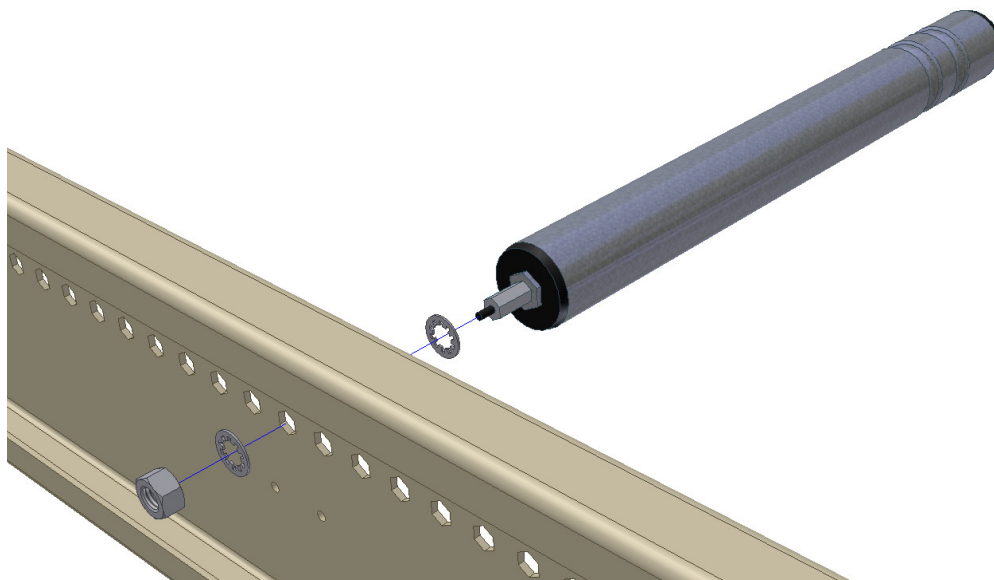

Figure 6: Motorized Drive Roller (Exploded View)
6. Insert the threaded hex shaft into the hex hole. Push the spring loaded idler shaft inwards and line the roller up with the hole. Release the idler shaft and allow it to pop into the hole in the frame. **Figure 6** shows an exploded view of the process.